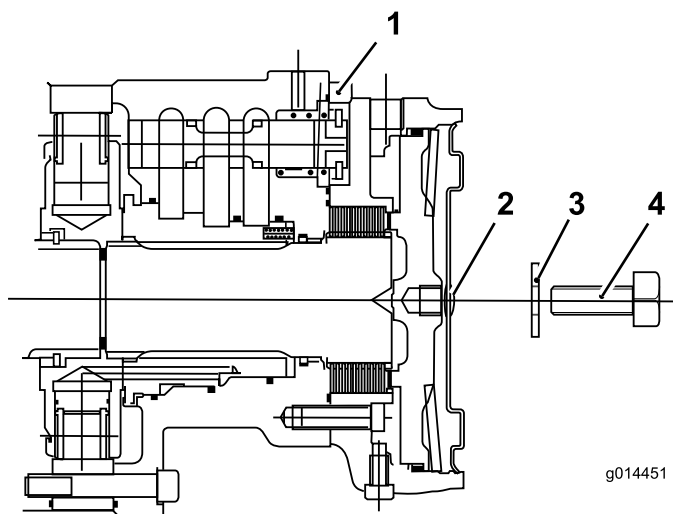

Figure 48
- C. Assemble the hex plug into the motor end plate (Figure 48).